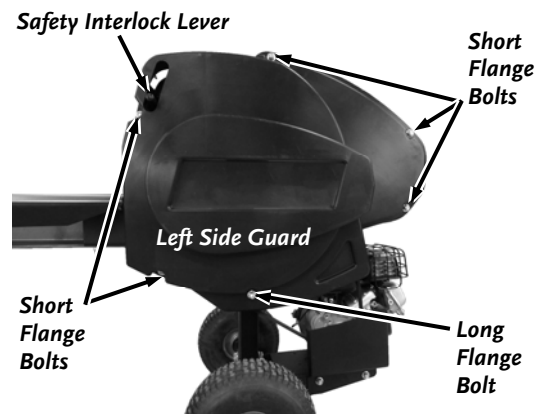

Figure 36
1. Remove the long Flange Bolt and Locknut that secures the lower portion of the Guards to the Frame using two 9/16" Wrenches (**Figure 36**).